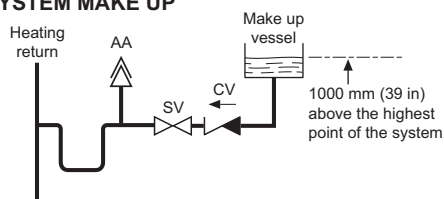

Fig. 5 System fill
- The CH sealed system must be filled using a WRAS approved filling loop or comply with figure 5 for system fill.
- Where the system volume is more than 100 litres or exceeds 2.65 bar at maximum heating temperature, an extra expansion vessel (2) must be fitted as close as possible to the appliance in the central heating return.
- Pressurise the extra expansion vessel (2) to the same figure as the expansion vessel built into the appliance.
Table 6 Key to fig. 5